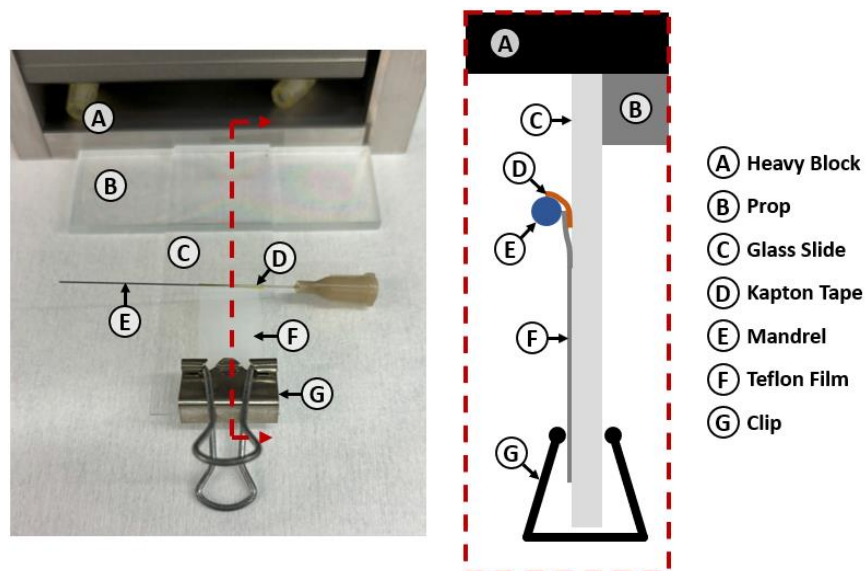

Figure 5-1: Cuff thermoforming fixture setup (cross section, shown in red dotted box, is not to scale).
- a. Place the assembly underneath a microscope with the clip side towards you, prop the free end of the glass slide up 3-5 mm, and push the slide against a heavy block (so that you can push against it without moving the fixture in later steps); see Figure 5-1 for full fixture setup